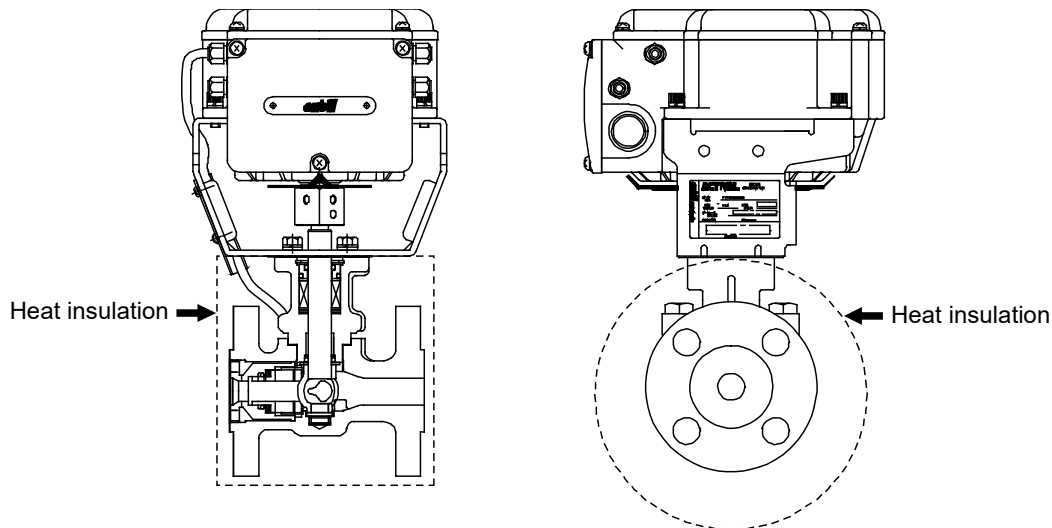

Figure 6. Heat insulating
- Apply heat insulation as illustrated by [ ] in Fig. 6.